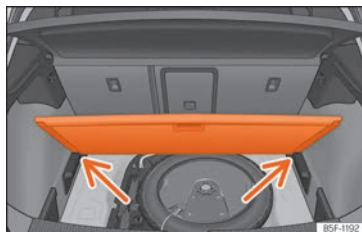

Fig. 133 Variable luggage compartment floor: inclined position.
- Rest the floor on its housings »» Fig. 133 (arrows).